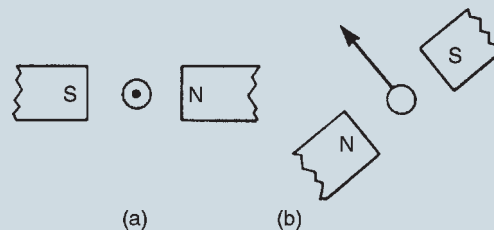

Figure 10.20
- For the current-carrying conductor lying in the magnetic field shown in Fig. 10.20(a), the direction of the force on the conductor is:
- For the current-carrying conductor lying in the magnetic field shown in Fig. 10.20(b), the direction of the current in the conductor is: